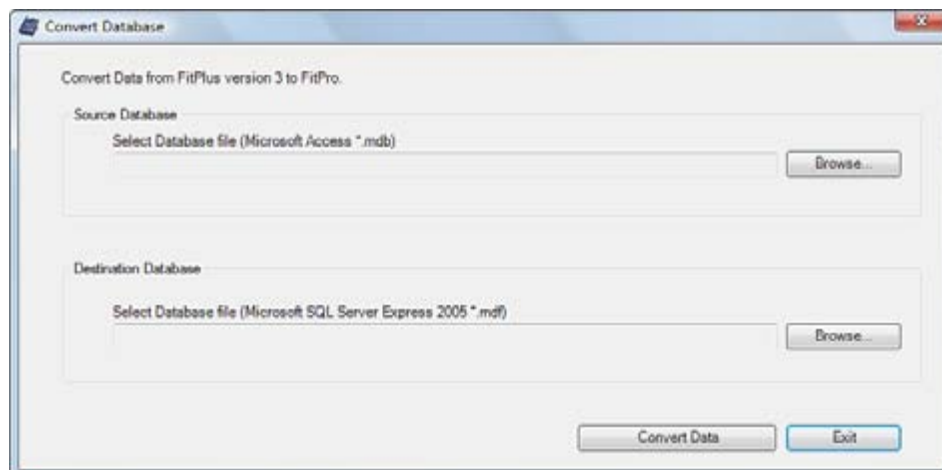

Figure 14. Convert Database Dialog
1. Select **D**atabase | **U**tilities | **C**onvert. The Convert Database dialog appears (Figure 14).